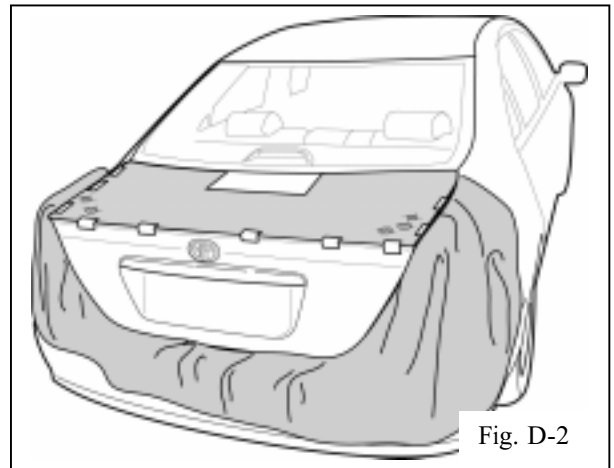

Fig. D-2
- 4. Place the Mylar drilling template on the trunk lid as shown and tape in place making sure it is aligned along the front and sides of the trunk lid and is completely smooth and flat on trunk lid surface. (Fig. D-2)
5. Locate the five (5) hole locations on the Mylar template. (Fig. D-2)